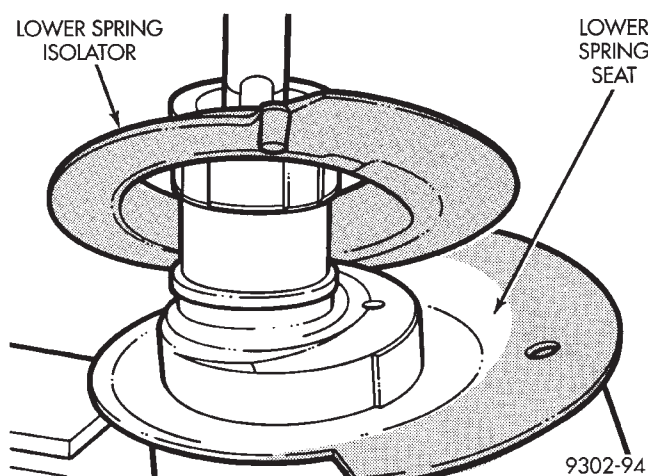

Fig. 6 Lower Spring Isolator
(8) Remove lower spring isolator from strut assembly lower spring seat (Fig. 6).
(1) Install original or new, lower spring isolator on strut unit (Fig. 6).